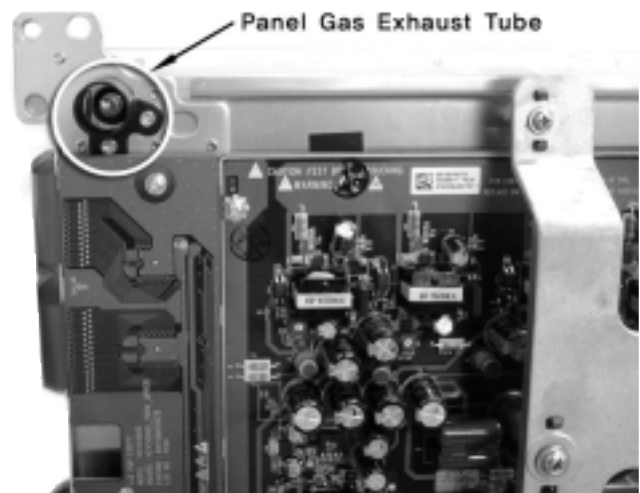

Fig 1. Panel Gas Exhaust Tube
- (1) When moving or laying down a PDP Set, at least two people must work. Avoid any impact towards the PDP Set.
- (2) Do not leave the broken PDP Set on for a long time. To prevent any further damages, after check the condition of the broken Set, make sure to turn the power (AC) off.
- (3) When opening the BACK COVER, turn off the power (AC) to prevent electric shock. When a PDP is on, high voltage and high current exist inside the Set.
- (4) When loosening screws, check the connecting position and type of the screw. Sort out the screws and store them separately. Because screws holding PCB are working as electric circuit GROUNDING, make sure to check if any screw is missing when assembling.
- (5) If you open the BACK COVER, you will see a Panel Gas Exhaust Tube (Fig. 1). If this part is damaged, entire PDP PANEL must be replaced. Therefore, when working, be careful not to damage this part.